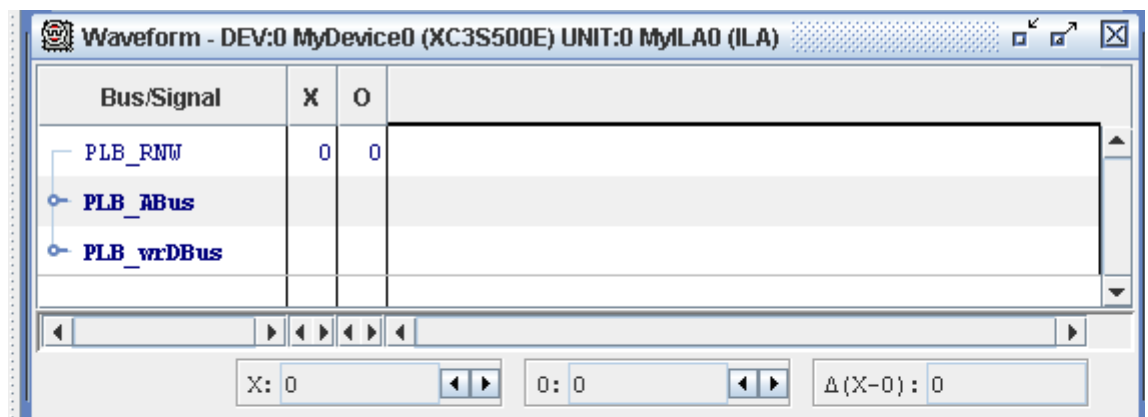

Figure 1-91. Chipscope Waveform View Setup
- ⑦ Delete all the signals from the **Waveform** window using [Shift Select] except for **PLB_RNW**.
- ⑧ In the **Signals** window, select **PLB_ABus** and **PLB_wrDBus** and add them to the waveform by right click on each bus and selecting **Add To View** (see **Figure 1-91**).